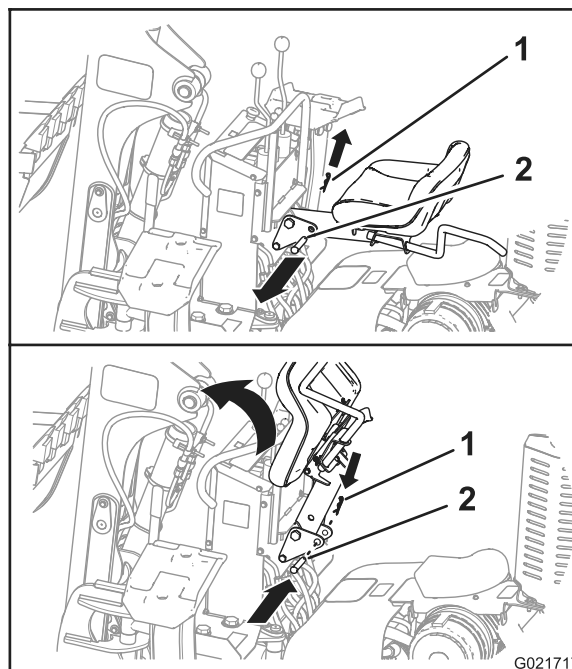

Figure 39
- A. Remove the hairpin from the seat lock pin (Figure 39).
- B. Remove the seat lock pin from the frame of the backhoe and the seat post (Figure 39).
- C. Pivot the seat post upward, and insert the seat-lock pin through the holes in the frame of the backhoe to hold the seat up to make room for removing the nose panel (Figure 39).